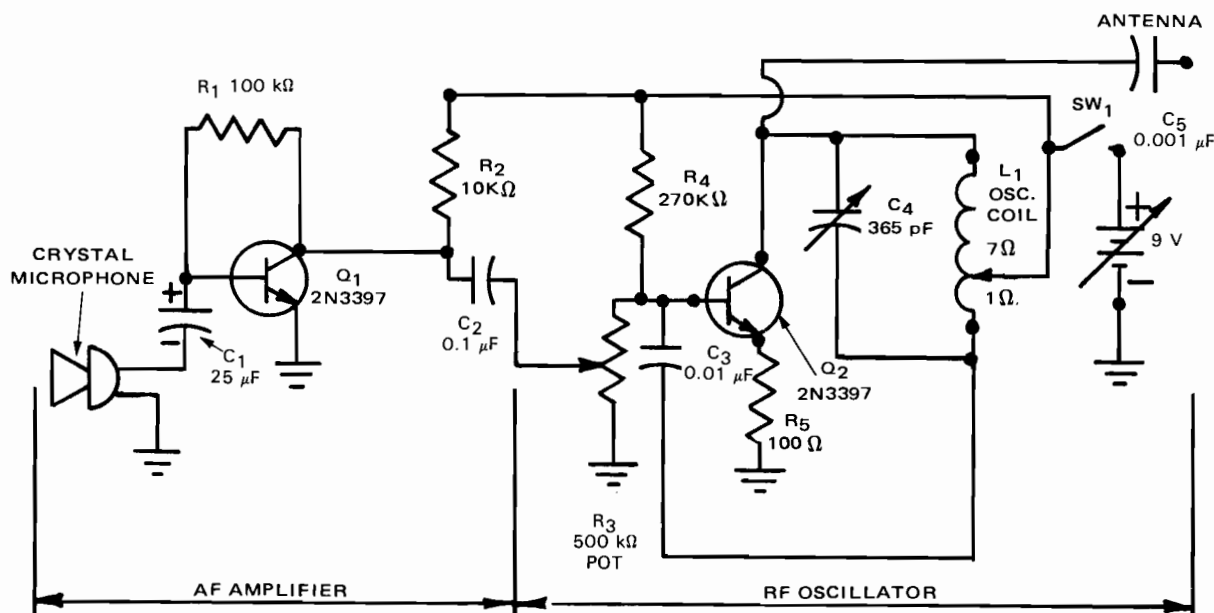

Fig. 19-2-1
1. Connect AM transmitter circuit like that which is shown in Fig. 19-2-1.